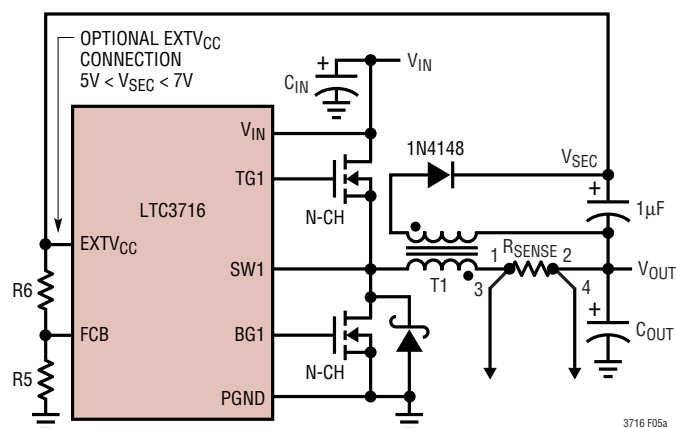
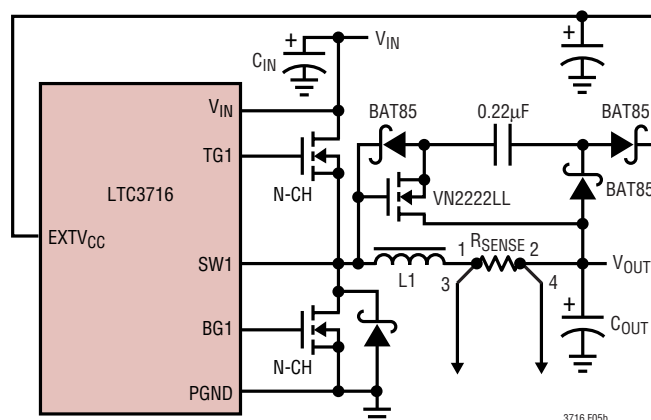

Figure 5a. Secondary Output Loop with EXTVCC Connection
Figure 5b. Capacitive Charge Pump for EXTVCC
4. EXTVCC connected to an output-derived boost network. For 3.3V and other low voltage regulators, efficiency gains can still be realized by connecting EXTVCC to an output-derived voltage which has been boosted to greater than 4.7V but less than 7V. This can be done with either the inductive boost winding as shown in Figure 5a or the capacitive charge pump shown in Figure 5b. The charge pump has the advantage of simple magnetics.
The secondary output voltage  $V_{SEC}$  is normally set as shown in Figure 5a by the turns ratio  $N$  of the transformer:
where  $R5$  and  $R6$  are shown in Figure 5a.